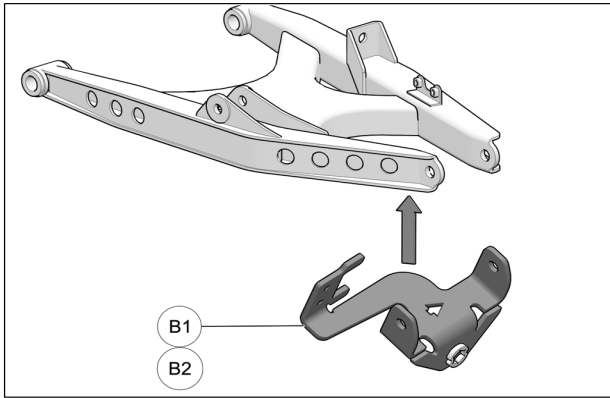

Fig. 5
6. Bring anchor bracket (**B1-B2**) up to lower suspension arm. See Fig. 5